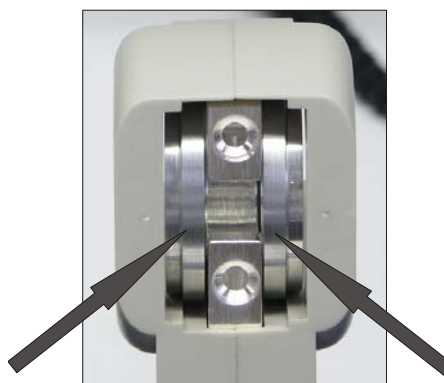

Fig. 1 Probe chamber with assembly rings inserted
- Insert the assembly rings at the right and left of the test probe chamber (see Fig. 1).